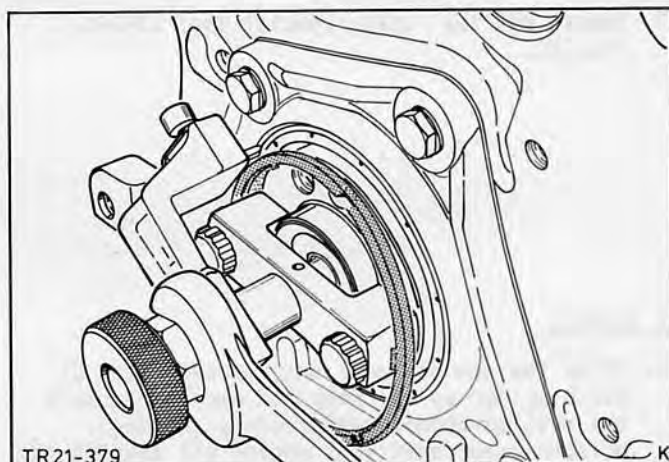

Fig.118. Cut out oil seal carrier with special tool 21-047.
2. Turn cutter clockwise using an open ended spanner, tightening knurled nut in the process, until the oil seal abutment is cut away from the oil seal carrier, Fig.118.